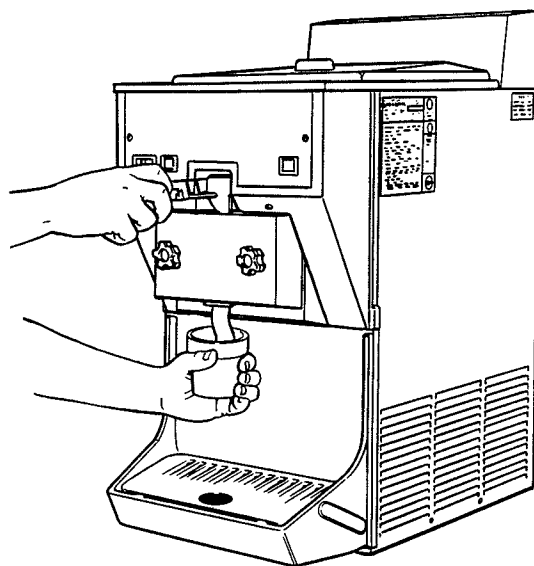

Figure 15. Dispensing Product
- H. For normal dispensing, move the spigot handle open 60° (Fig. 15).